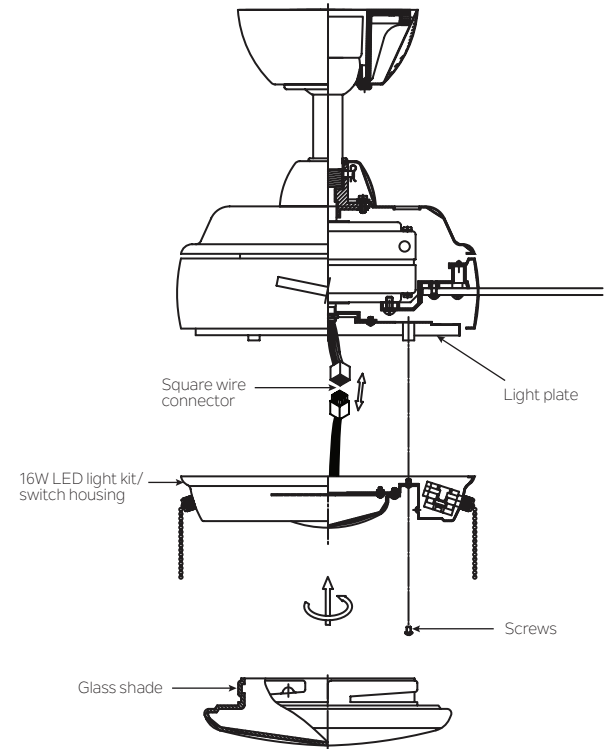

Fig. 16
Step 1. Loosen the three mounting screws on the inside of the 16W LED light kit/switch housing. (Fig.16)
Step 3. Tuck the connections neatly into the light plate. Place the key holes on the 16W LED light kit/switch housing over the 2 screws previously loosened from the light plate, turn the 16W LED light kit/switch housing until it locks in place at the narrow section of the key holes. Secure by tightening all three screws. (Fig.16)
Step 4. Raise the glass shade against the 16W LED light kit/switch housing and turn clockwise until snug. DO NOT OVERTIGHTEN. (Fig. 16)